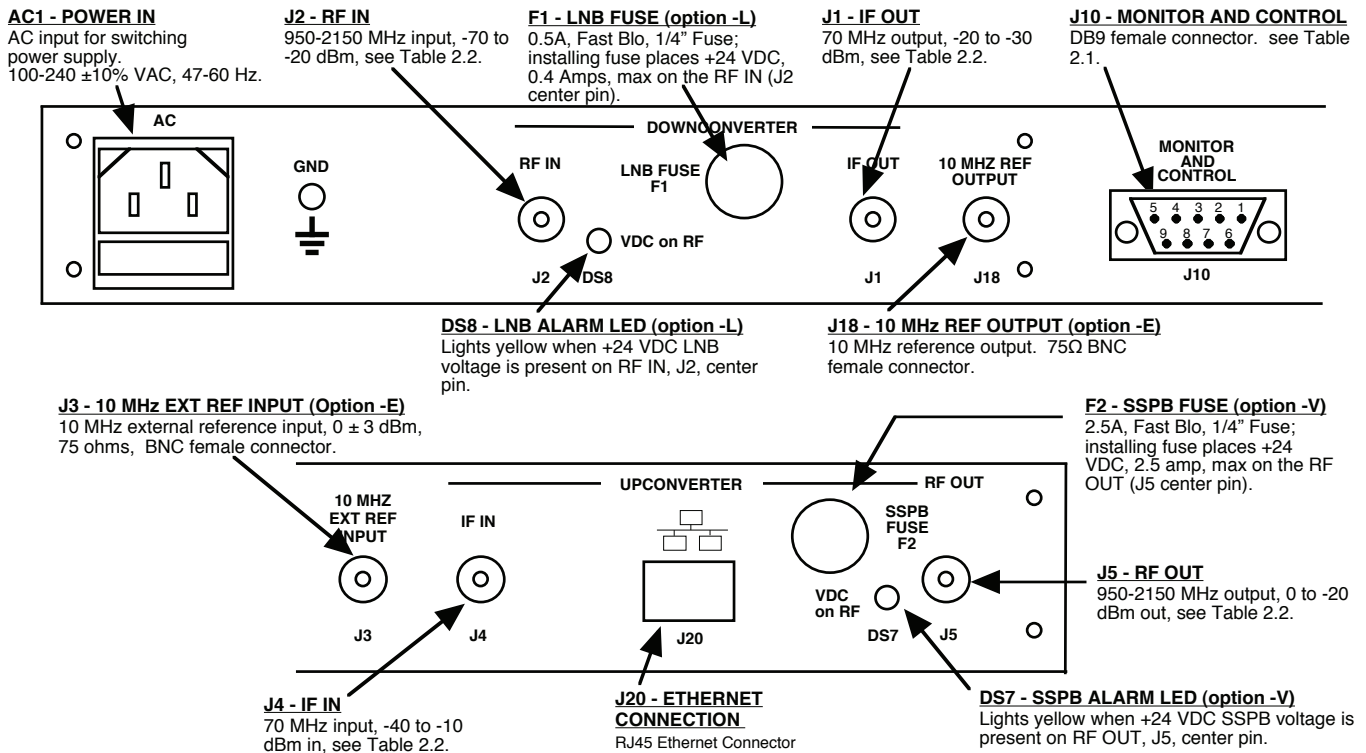

Figure 2.1 Model 2017-02 Rear Panel I/O's
2.2 Rear Panel Input/Output Signals and Control - Figure 2.1 shows the input and output connectors on the rear panel.
- 1.) Connect a -10 dBm to -40 dBm signal to IF In, J4 (Figure 2.1).
- 1.) Connect a -70 dBm to -20 dBm signal to RF In, J2 (Figure 2.1).